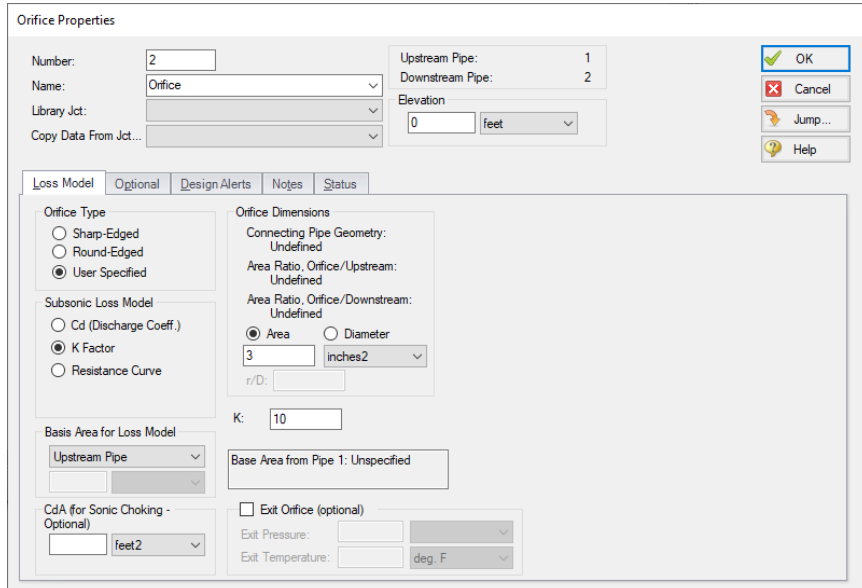

Figure 2.10 Properties window for the J2 Orifice
- **Next, open the Properties window for the J2 Orifice junction.** Enter the Orifice Type as User Specified, the Subsonic Loss Model as K Factor, $K = 10$, and the elevation as 0 feet (see Figure 2.10). Click OK to close the window.